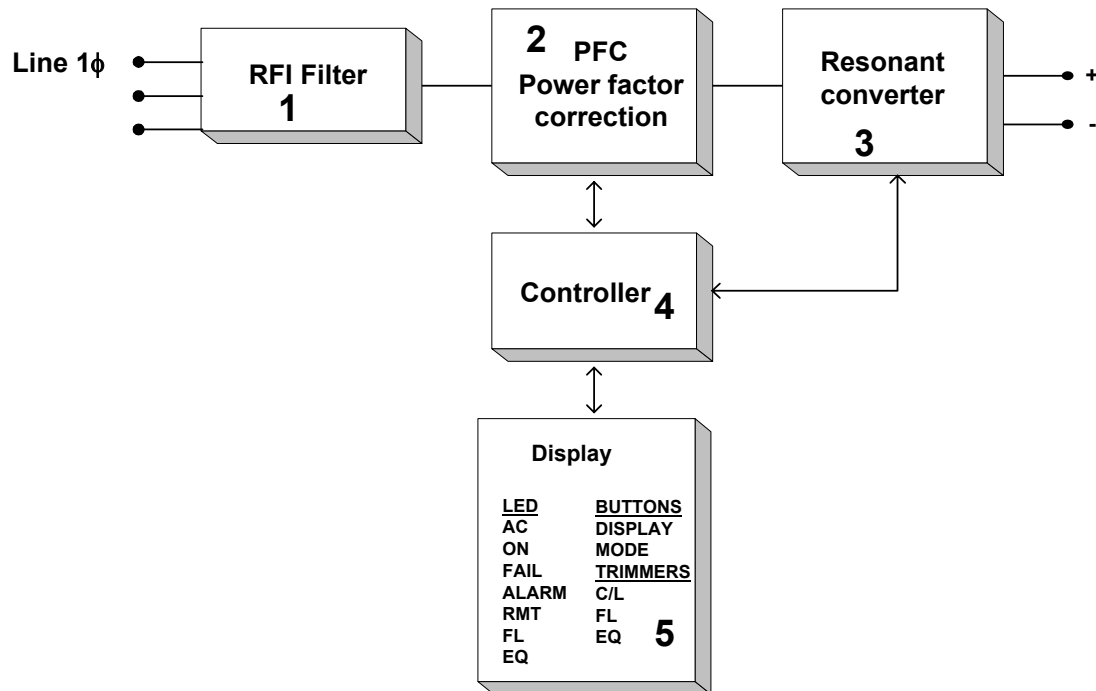

Figure :1 Block Diagram of the HPS μ V Rectifier
2. The power factor corrector (see no. 2 on Figure 1), which is a boost converter, converts the rectifier's AC Input to a steady 380V_{DC}. The power factor corrector (PFC) ensures a sinusoidal input current and reduces the input harmonic distortion to a minimum.
3. The PFC, which is a boost converter, converts the input voltage (AC) to DC using soft switching technology. The boost allows system operation within the input range during extreme voltage and frequency changes.
5. The control unit (see no.4 on Figure 1) measures and assesses the rectifier's parameter statuses then communicates this data to an external system controller or computer via serial port communication. The status of the individual parameters are also displayed via LED indicators on the control unit's front panel.
7. The control unit's display (current, voltage, temperature, LEDs, push buttons) and calibration trimmers (for different V/A) are located on the rectifier's front panel (see no. 5 on Figure 1).